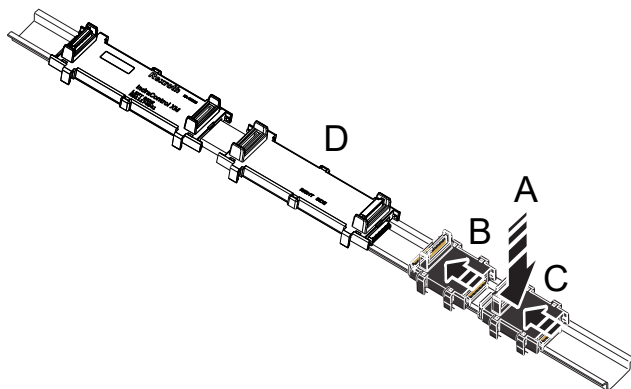
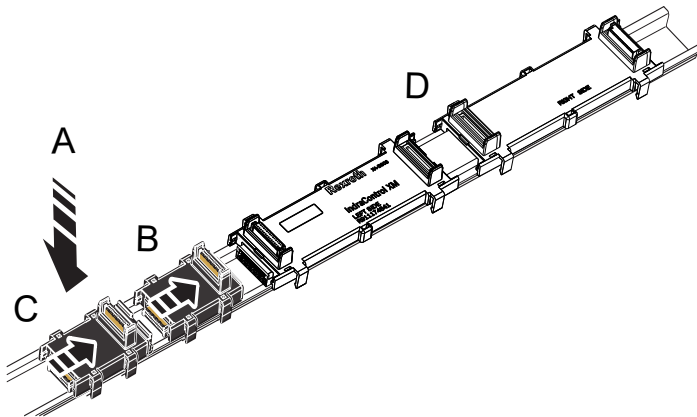

Fig. 12: Interconnect S20 bus bases and to the control bus base
Fig. 14: Interconnect extension bus bases and connect them to the control bus base
3. ➞ Mount the S20 bus bases and the bus bases for the extension modules, refer to Fig. 12 and Fig. 14.